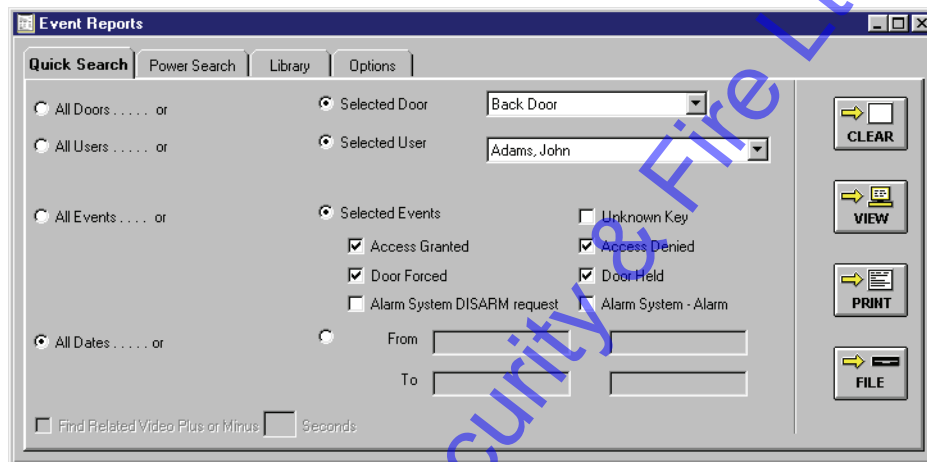

Figure 7-16: Selected Events
3. To select any or all of these seven events for event reporting, click on the check box beside the event. When a check mark appears in the box, the event is selected. If the box is empty, the event is not selected (see Figure 7-16).